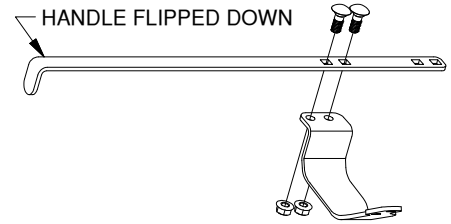

Figure D1: Latch handle assembly configurations.
1. **Assemble the handle.** Locate the latch pin handle and the latch pin handle bracket. Assemble the pieces of the handle with two 3/8" carriage bolts and 3/8" locking flange nuts, making sure that the edge of the handle is in line with the edge of the bracket, see Figure D1. Torque the nuts to 30 ft. lbs.